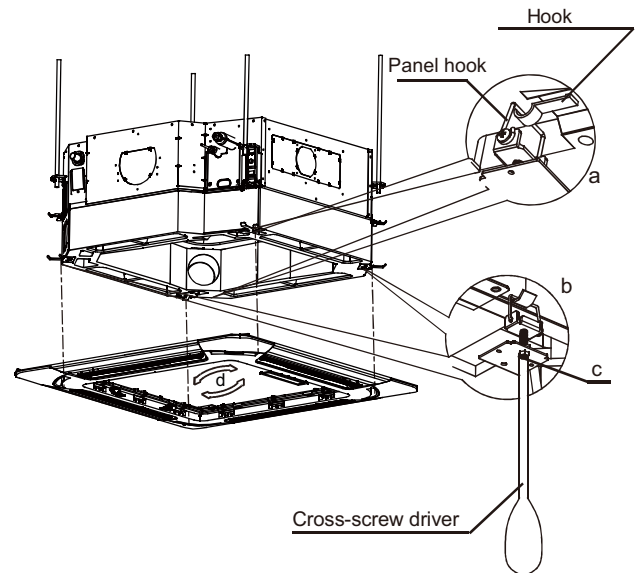

Fig. 12 — Mounting Panel
4. Secure the panel (without the grille) onto the Outside Air Kit using M5 x 16 screws and washers. Before tightening the screws, be sure the panel is flush with the false ceiling. See Fig. 12.